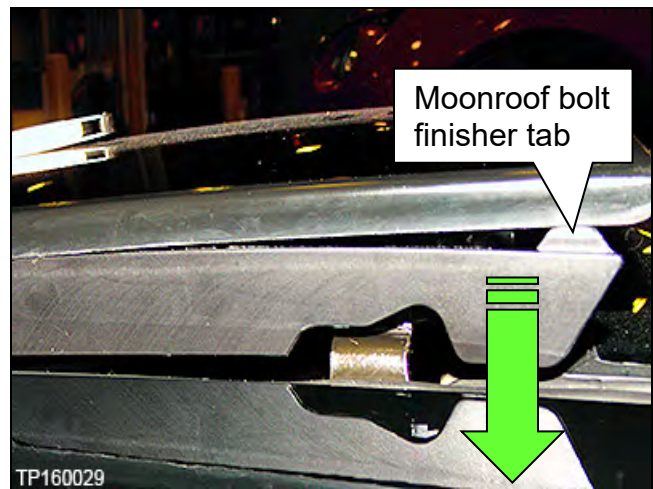

Figure 52
- b. Pull the "Moonroof bolt finisher tab" (plastic tab) down and away from the Moonroof and allow it to rest in the position shown in Figure 52.